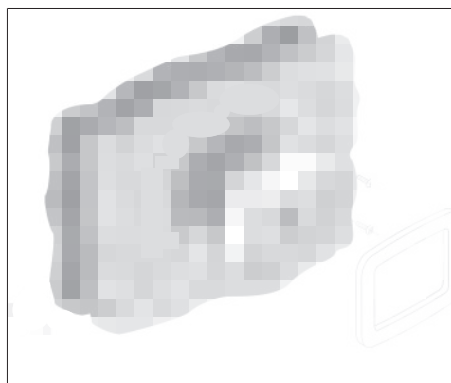

Fig. 8 Disassembling the manual control panel
2. Remove the control panel as shown (see Fig. 8).